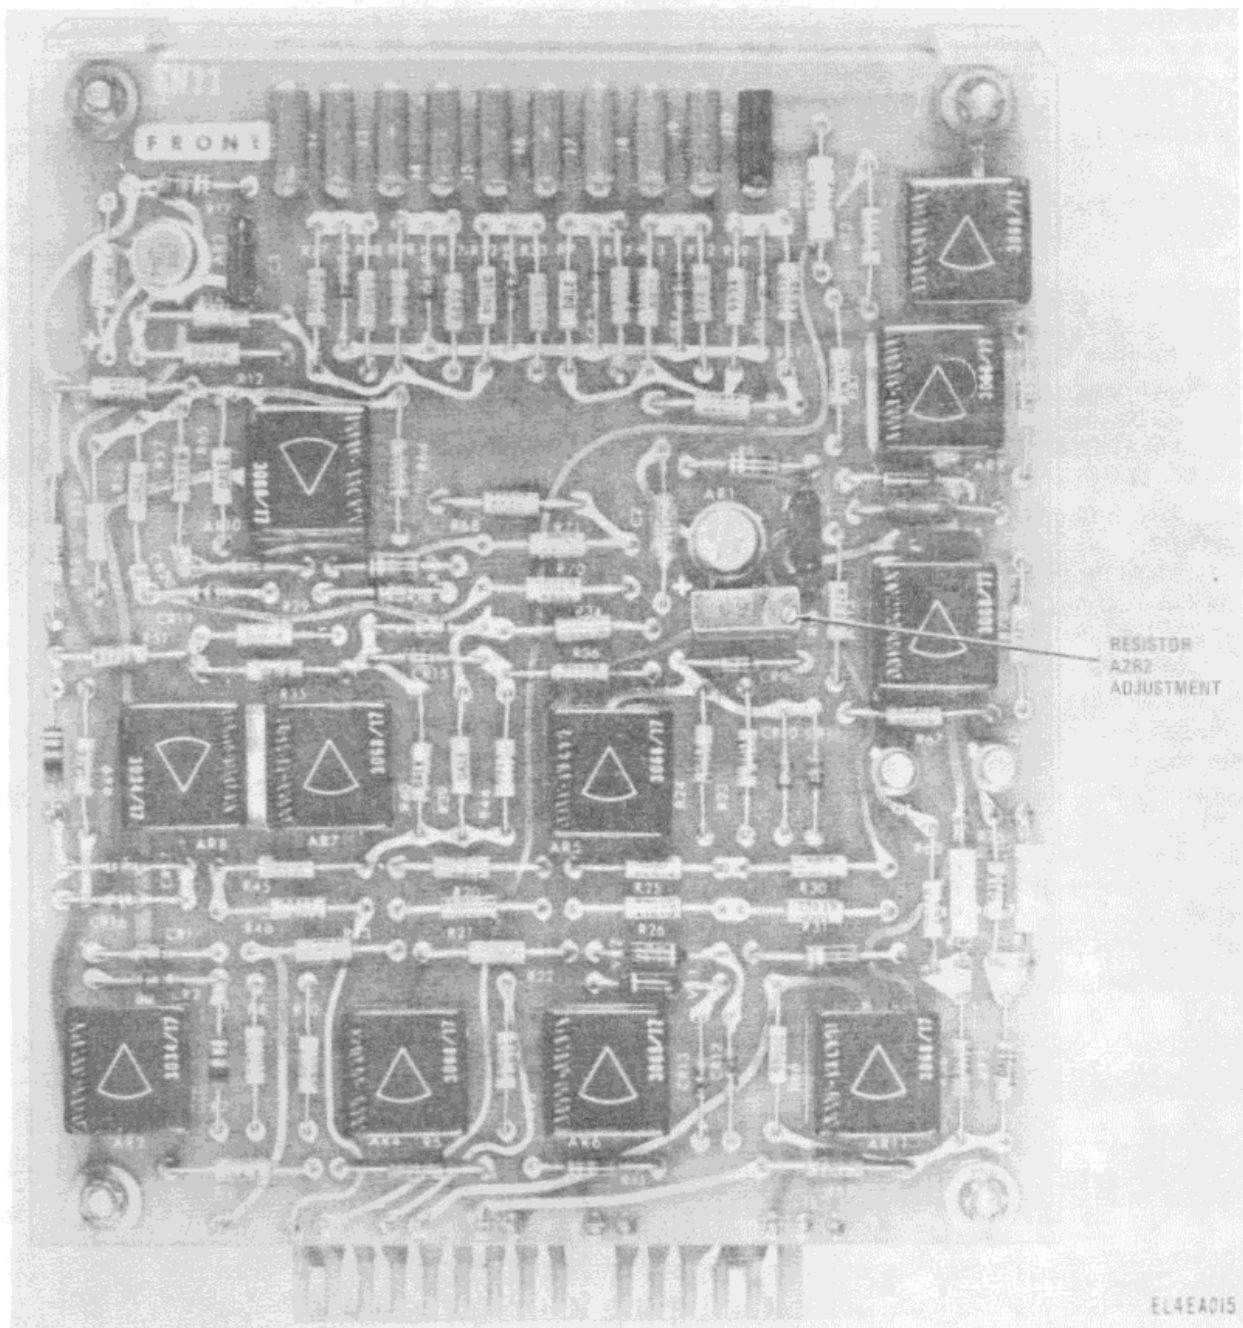

Figure 10. Sweep generator 2A4, front of card.
(1) Set the POWER switch of the MX-8639A/APS-94D to OFF.
(2) Extend sweep generator 2A4 with Adapter, Test MX-8633/APS-94D.
(3) Set the POWER switch of the MX-8639A/APS-94D to ON.
(4) Adjust resistor A2R2 (fig. 10) for a $+9.0 \pm 0.1$ vdc indication on the voltmeter.